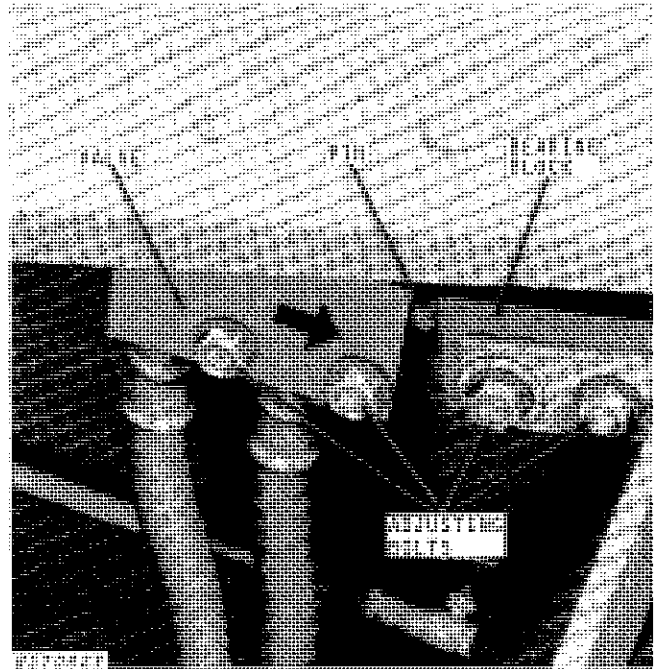

Fig. 40-Adjusting Valves and Bearing Blocks
7. Slide each height sensing valve (Fig. 40) forward until unit rises about 1-inch above the floor. Tighten bolts.